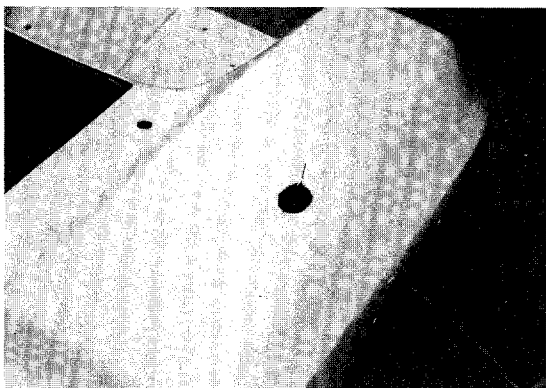

Figure 14-11
1. Clean up the damaged area by chipping out all small pieces. Cut all cracks with a hack saw blade just beyond the end of the crack (**Figure 14-11**).